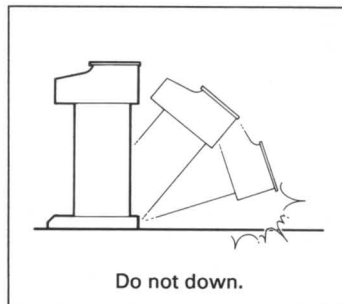

Fig 1
1. Remove the roof board. (Fig.1)